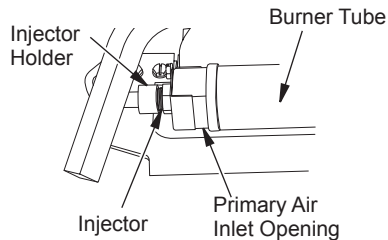

Figure 24 - Injector Holder on Front Burner Tube
2. Inspect burner and primary air inlet holes on injector holder for dust and dirt (see Figure 24).